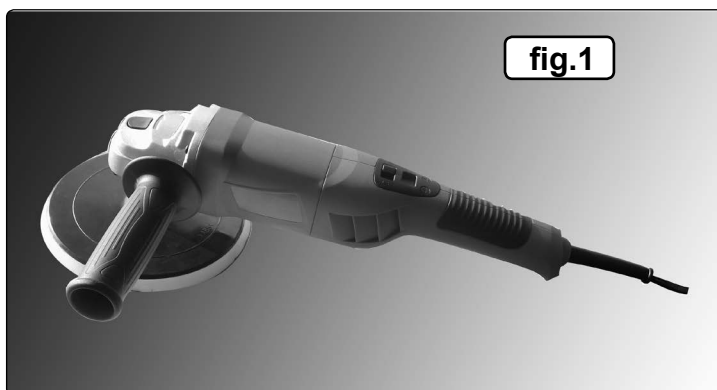

fig.1
- 4.1.1. Traditional Handle (fig.1): Attach the side handle to either side by screwing into the desired fixing hole in the head.